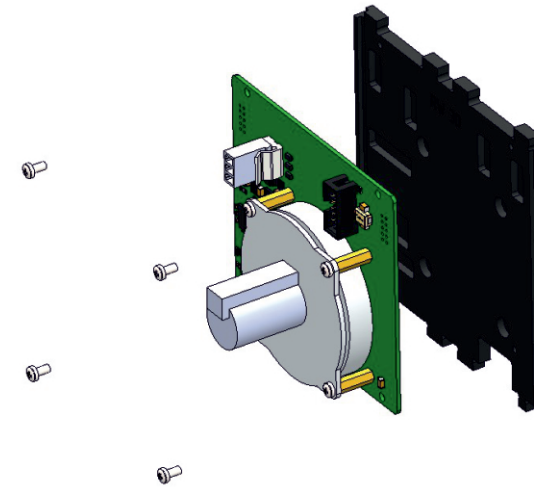

Fig. 56: Mounting the reaction wheel board on the side wall
2) Secure the second reaction wheel board on the side wall using four M3x6 cylindrical-head screws (Fig. 56):